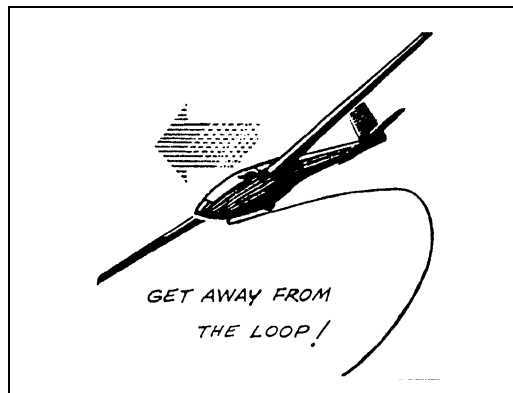

Figure 2-4-9 Slack Rope
- (1) take immediate corrective action to stop the increase in slack by yawing away from the loop (Figure 2-4-9);